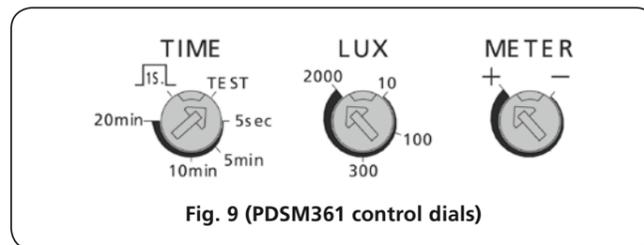

Fig. 9 (PDSM361 control dials)
1. Following marked values (excepting TEST and $\overline{15}$) are approximate, the values are continuously adjustable over the control range (see Fig. 9).